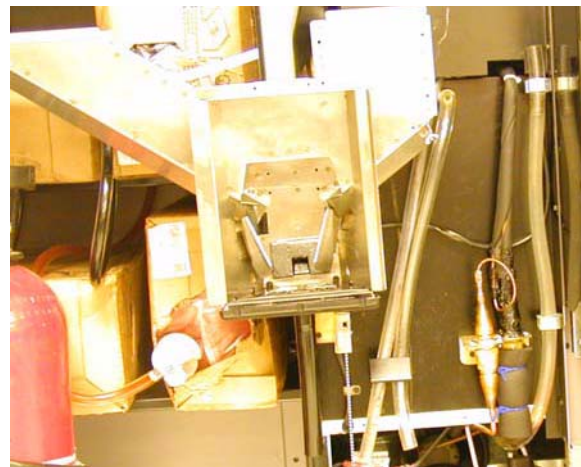

Figure 7
- 5. Install the new cup station (see figure 7).